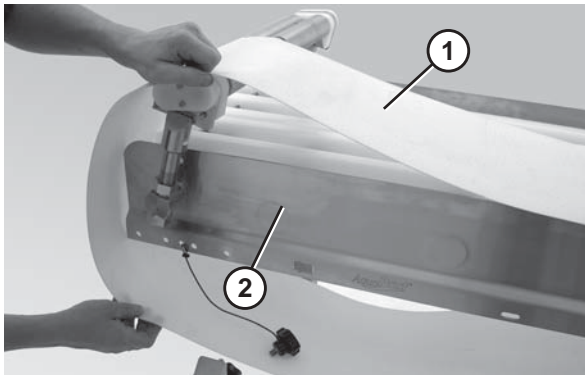

Figure 50
- Slide the old belt (**Figure 50, item 1**) off the conveyor frame (**Figure 50, item 2**).